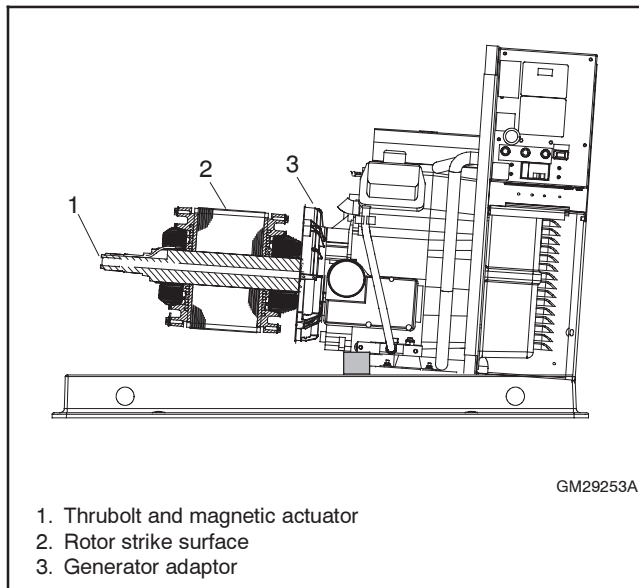

Figure 7-12 Rotor and Throbolt
- b. Loosen and remove the throbolt. Use a strap wrench on the rotor to keep the rotor from turning during loosening, if necessary. See Figure 7-12.
- c. Remove the rotor assembly by striking the side of the rotor repeatedly with a soft-faced hammer to loosen it from the tapered crankshaft fitting. See Figure 7-12. Rotate the rotor and strike it on alternate sides. Set the rotor assembly aside.
2. Install the rotor. See Figure 7-12.